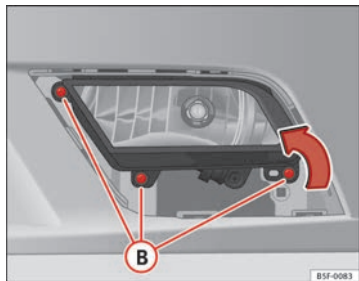

Fig. 141 Front fog light
- Remove the bolts (3x) => Fig. 141 **B** to remove the fog light.